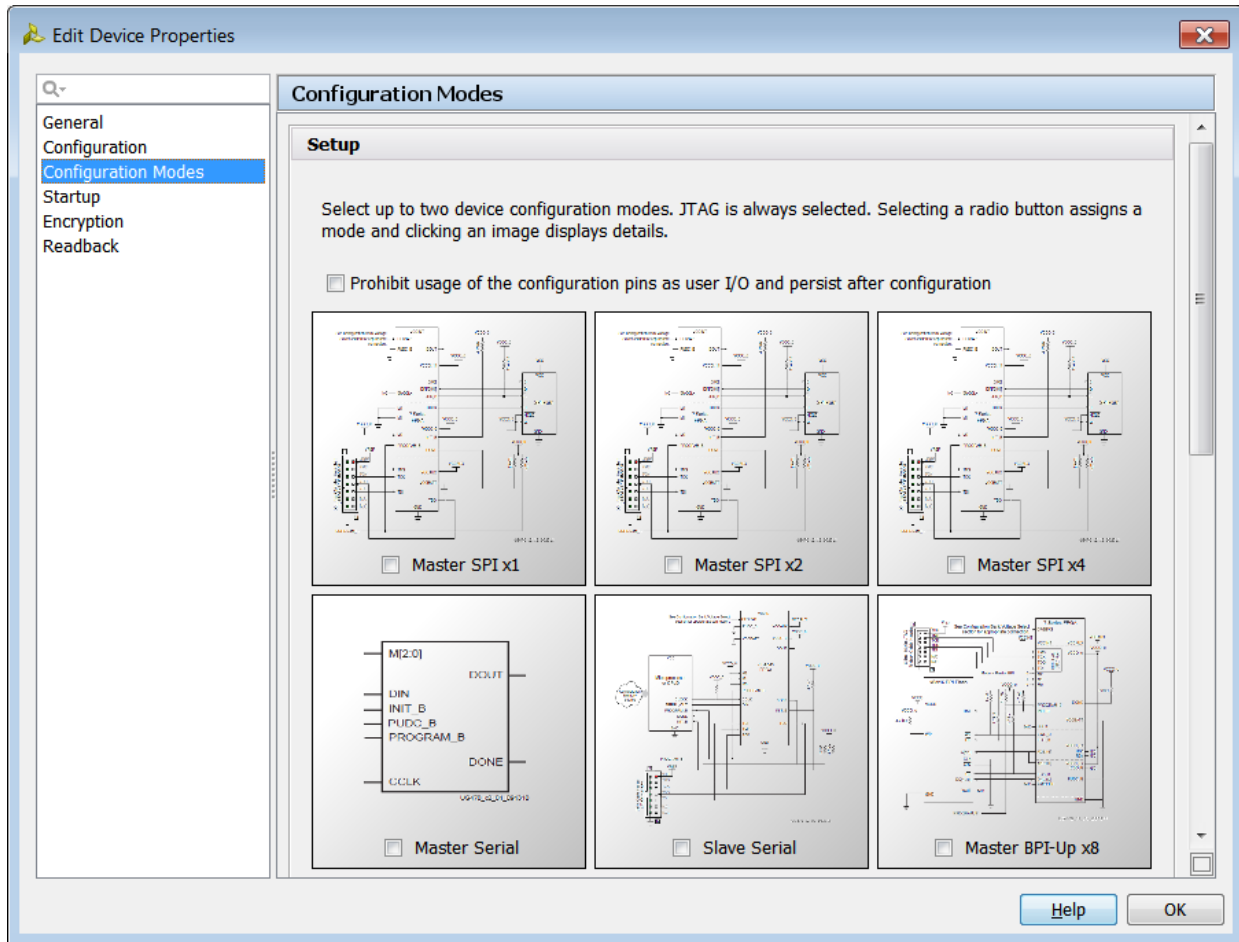

Figure 3-8: Edit Device Properties Dialog Box
2. In the Edit Device Properties dialog box (Figure 3-8), select the **Configuration Modes** category, do the following, and click **OK** to close the dialog box: